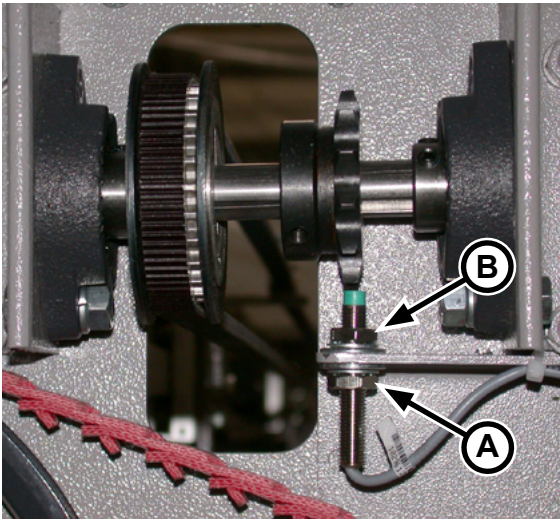

Figure 7-29: The upper spreader encoder is located in the left endframe.
3. Loosen the outer nut (Figure 7-29, A) and move the sensor closer to the target surface. Tighten the inner nut (B) to hold the sensor in the new position.